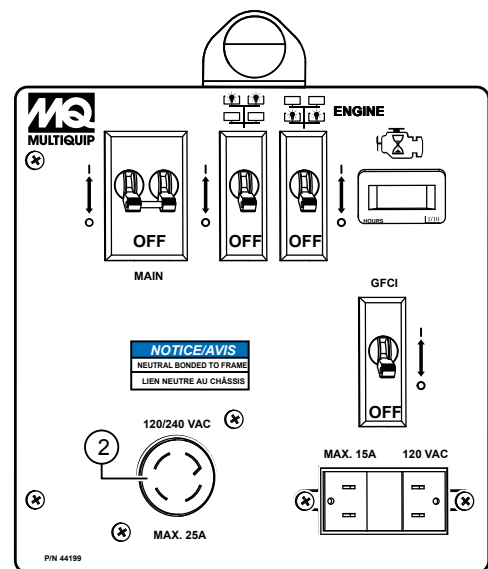

Figure 2. Circuit Breakers Off
1. Place all circuit breakers (Figure 2) in the **OFF** position, and turn engine **OFF**.